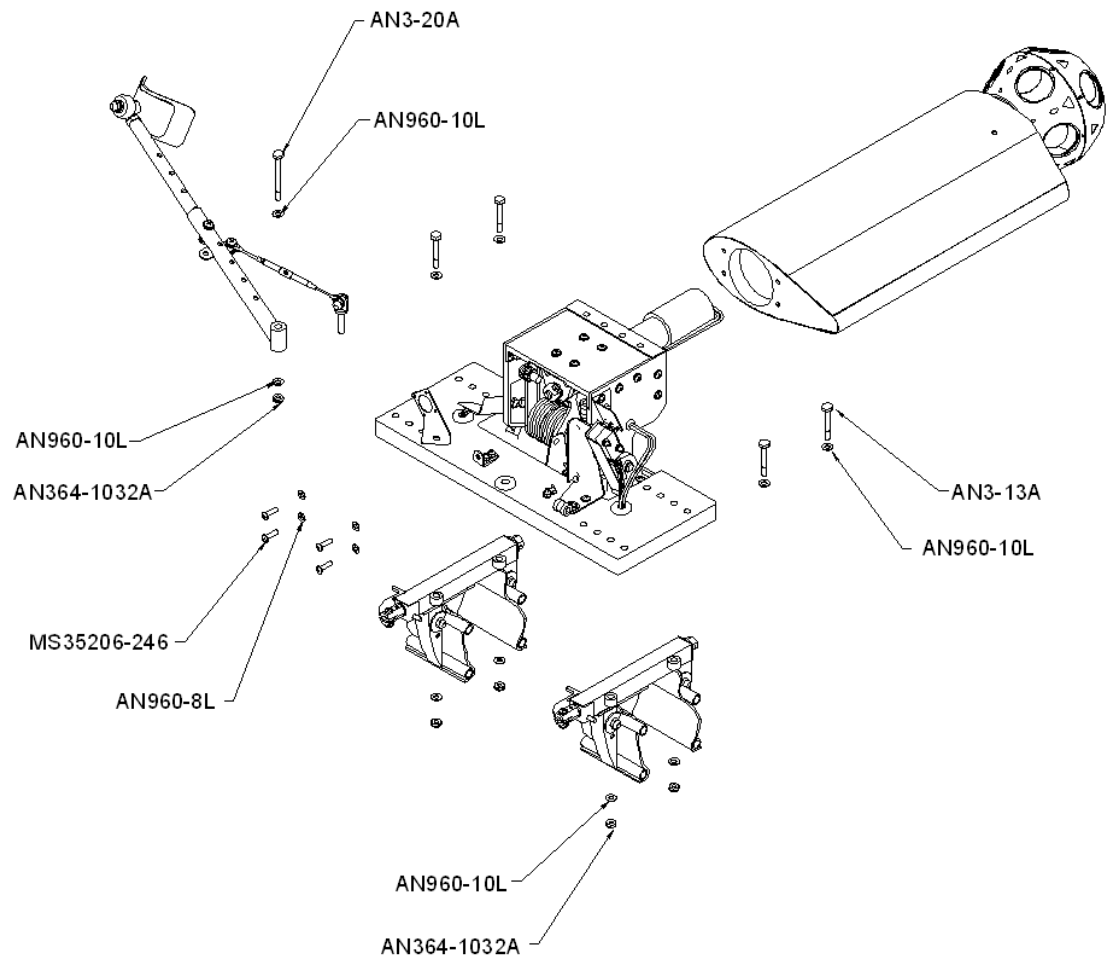

Figure 1.1: Retractable Camera Mount Assembly
- (1) The boom, Torque Arm, and Skid Clamps should be removed from the Motor Housing prior to packaging unless they are in the custom transport case IMC407-161. Refer to IPL Figure 2.2 and Installation/Removal Figure 1.1 for general disassembly prior to packaging.
- (2) The items should be packaged and wrapped separately to prevent damage during transport.
All required hardware is included with the Retractable Camera Mount. Figure 1.1 shows an overview of the camera mount installation and associated hardware. Note that the components can be attached in different positions to facilitate mounting on the left or right skid of the helicopter. The Retractable Camera Mount can also attach to the front or back strut of a skid.